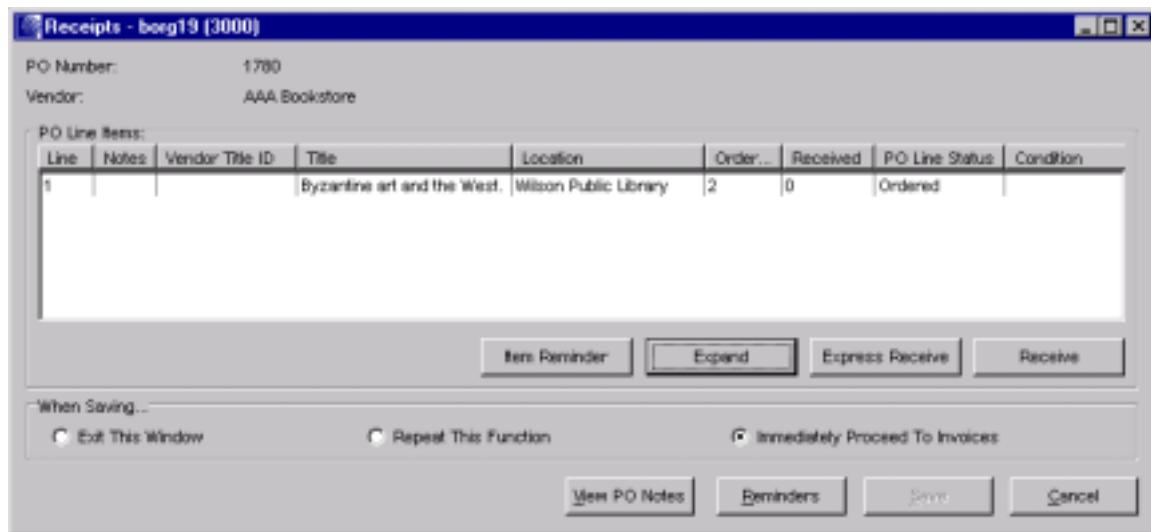

Figure 6-6. Receipts Window
1. Display the Receipts window for the desired purchase order (Figure 6-6).